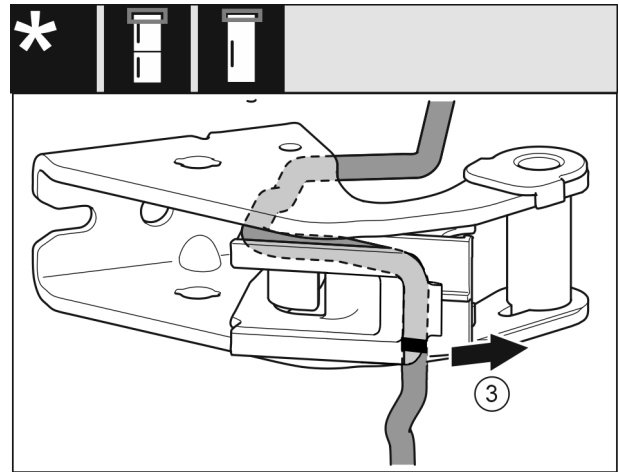

Fig. 25
- ▶ Remove the cable with the cable bracket Fig. 25 (3) from the swap bearing block.